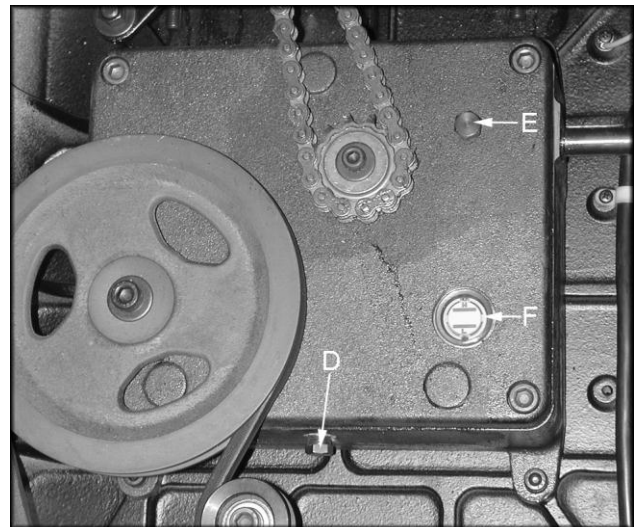

Figure 25
- The gear box oil should be changed at least once a year. Remove the drain plug (D, Figure 25) to drain the oil into an appropriate container. Replace the drain plug and fill the gear box with 60 to 90 weight gear oil through the fill hole (E, Figure 25). Capacity is 0.494 gallon (1.87L). The sight glass (F, Figure 25) should be checked periodically and oil topped off as necessary.